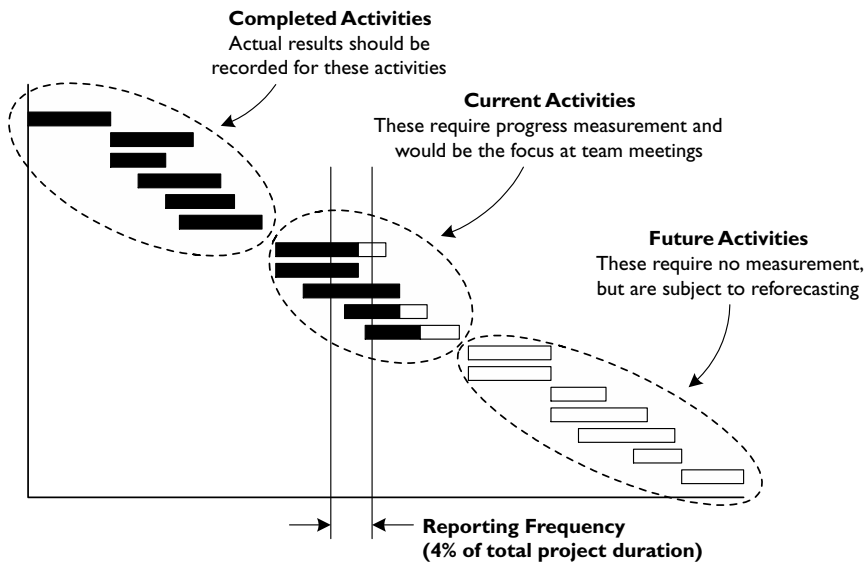

Figure 9-1. Choosing meeting frequency
**Team Meetings.** As you can see from the list above, project analysis consists of elements of the past, the present, and the future. The main conduit of current information is ordinarily your project team status meetings. As mentioned earlier, project team meetings should be conducted regularly throughout the life of the project. Figure 9-1 illustrates how choosing a reasonable team meeting frequency yields three groups of activity updates.